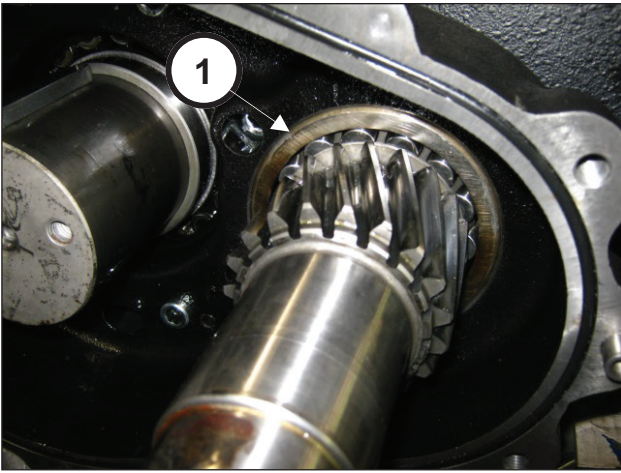

Fig. 65
Position the bearing to end stroke (pos. ①, Fig. 65).